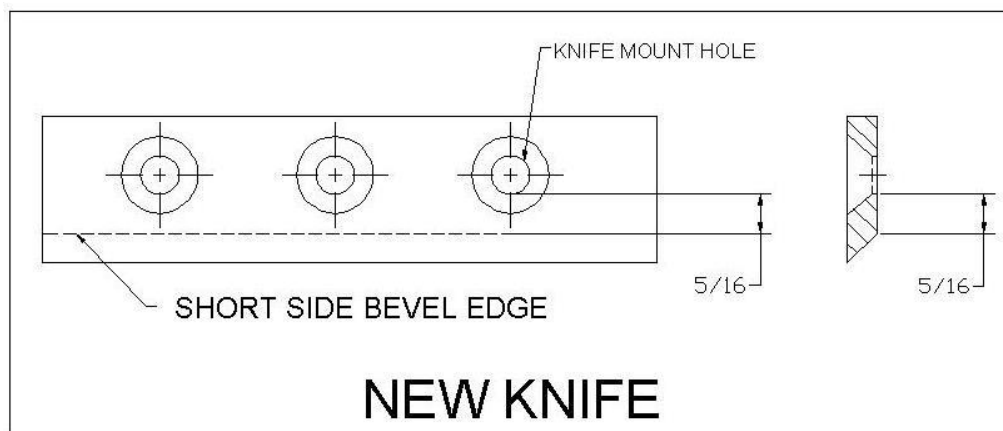

Figure 2
- A new chipper knife has 5/16" measurement between the short side bevel edge and the knife mounting holes. See figure 2.